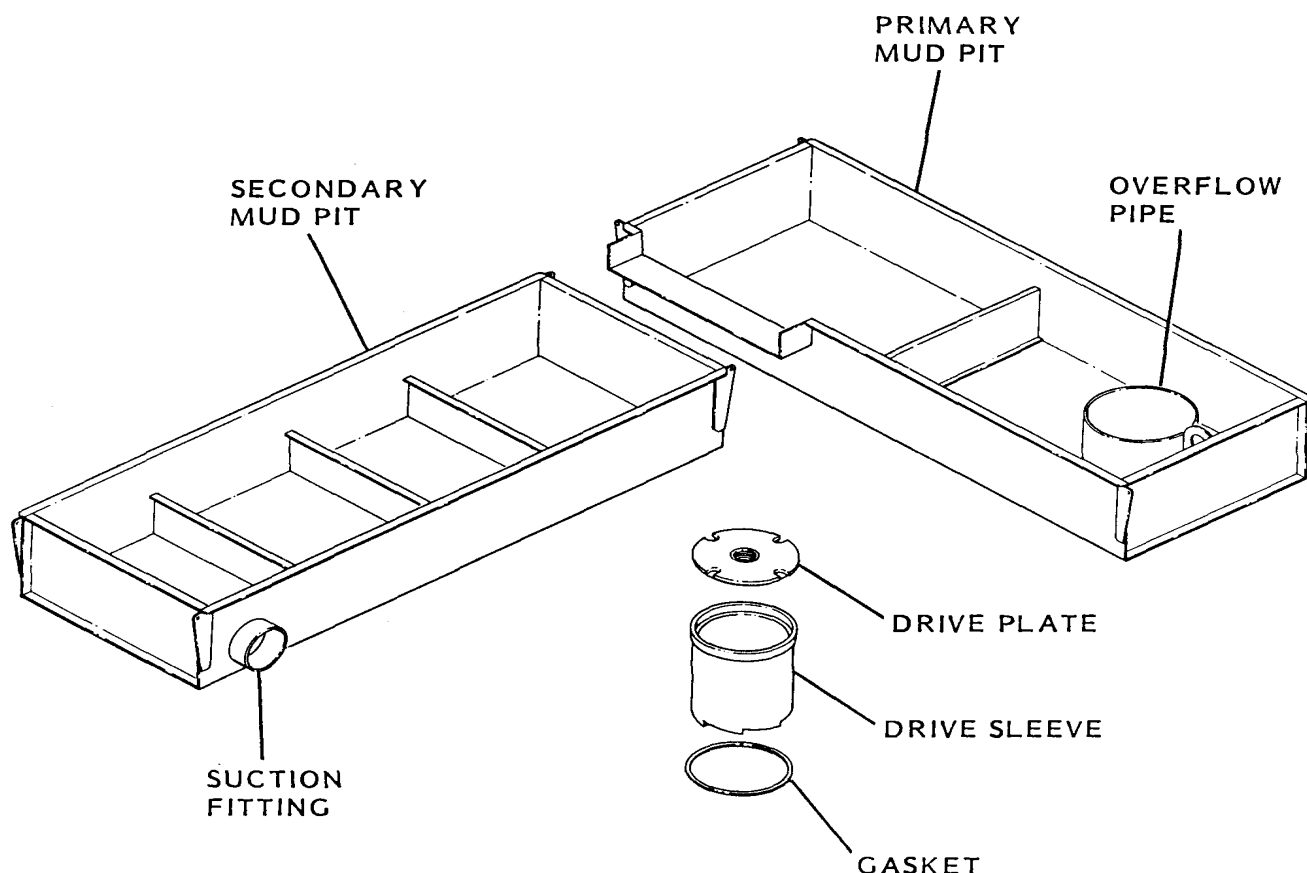

Figure 2-26. Mud pit system.
- a. Mud pits. Remove the primary and secondary mud pits from the support vehicle. Temporarily, set the primary pit under the rotary table area and set the secondary pit at a right angle to the primary. See Figure 2-26. Connect the mud pump suction hose to the suction fitting on the secondary pit. When required, prepare mud storage and settling pits (refer to FM 5-166).
(1) Mud pits.
- (b) Install the gasket (see figure 2-26) over the drive sleeve and then place the sleeve in the overflow pipe on the primary pit.
(2) Mud pump.